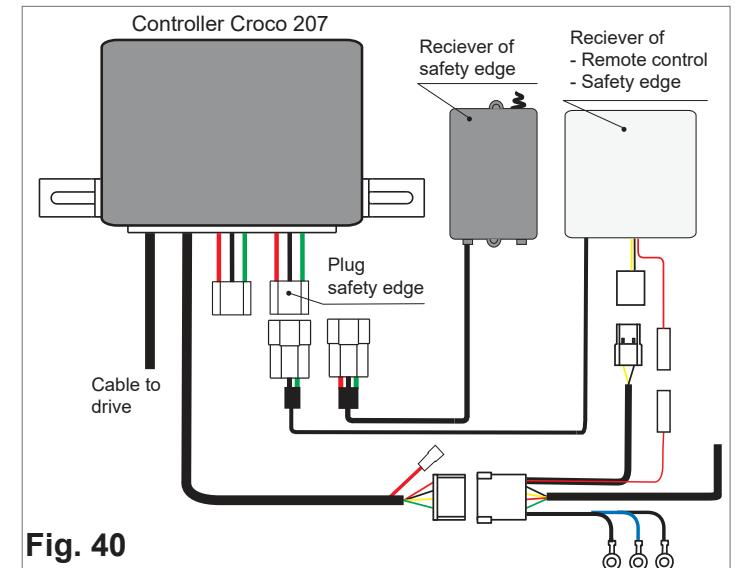

Fig. 40
**Croco 207:** Connect the corresponding receiver to the control unit as shown in Fig. 40.